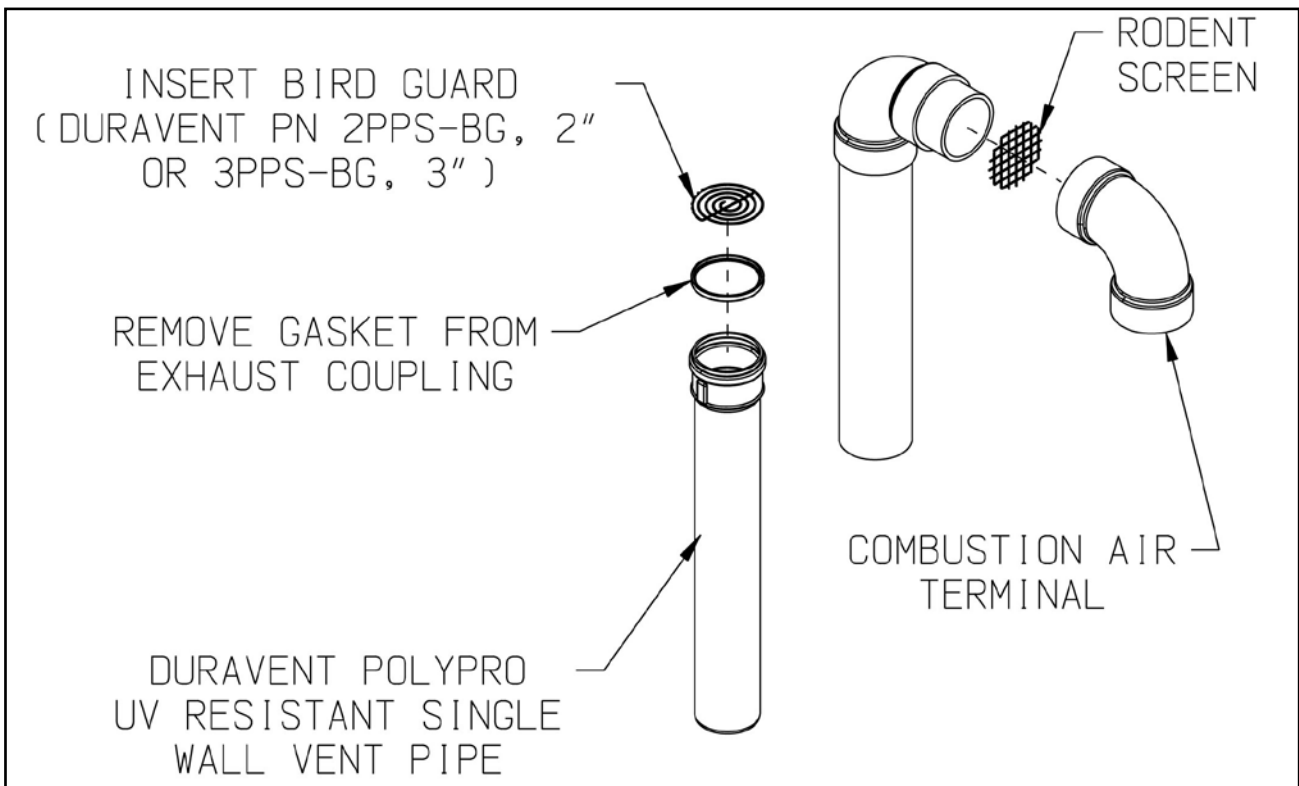

Figure 7.37: Installation of DuraVent PolyPro UV Resistant Single Wall Vertical Terminal
- a. See Figure 7.37 for the proper orientation of twin pipe vertical terminals.
- c. A 180° bend (or two 90° elbows) are installed on the top of the air intake pipe. If two 90° elbows are used, the rodent screen provided can be installed between them (Figure 7.37). If a 180° bend is used, install the rodent screen in the open side of the bend, using a ring made of PVC pipe. If desired, the termination fittings can be attached to the end of the intake pipes with field supplied stainless steel screws so that they can be later removed for cleaning and inspection. If this is done, drill a clearance hole in these fittings and a tap hole in the end of the intake pipes to accept these screws.